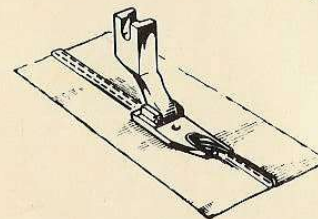

Fig. 44
- Insert edges in hemmer foot scroll and sew as for normal straight stitch hem (Fig. 44).